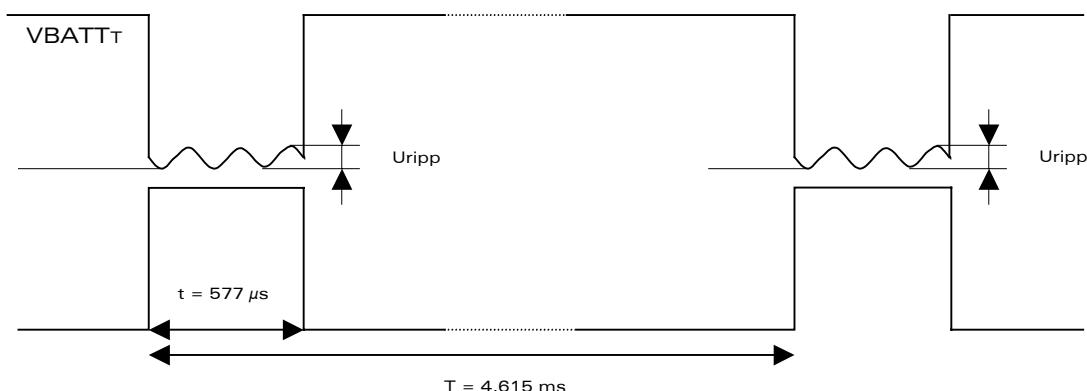

Figure 2 : Power supply during burst emission
- In communication mode, a GSM/GPRS class 2 terminal emits $577\mu\text{s}$ radio bursts every 4.615ms . (See Figure 2)